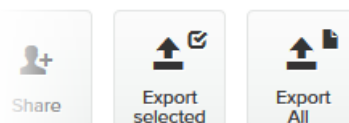

Figure 71. Plug-ins web page (code export controls)
4. To export only selected Activation codes, check the selection check-boxes to the left of each plug-in that must be included in the *.CSV file, then click the **Export selected** button. Alternatively, export all Activation codes by clicking the **Export All** button (Figure 71 (page 150)).